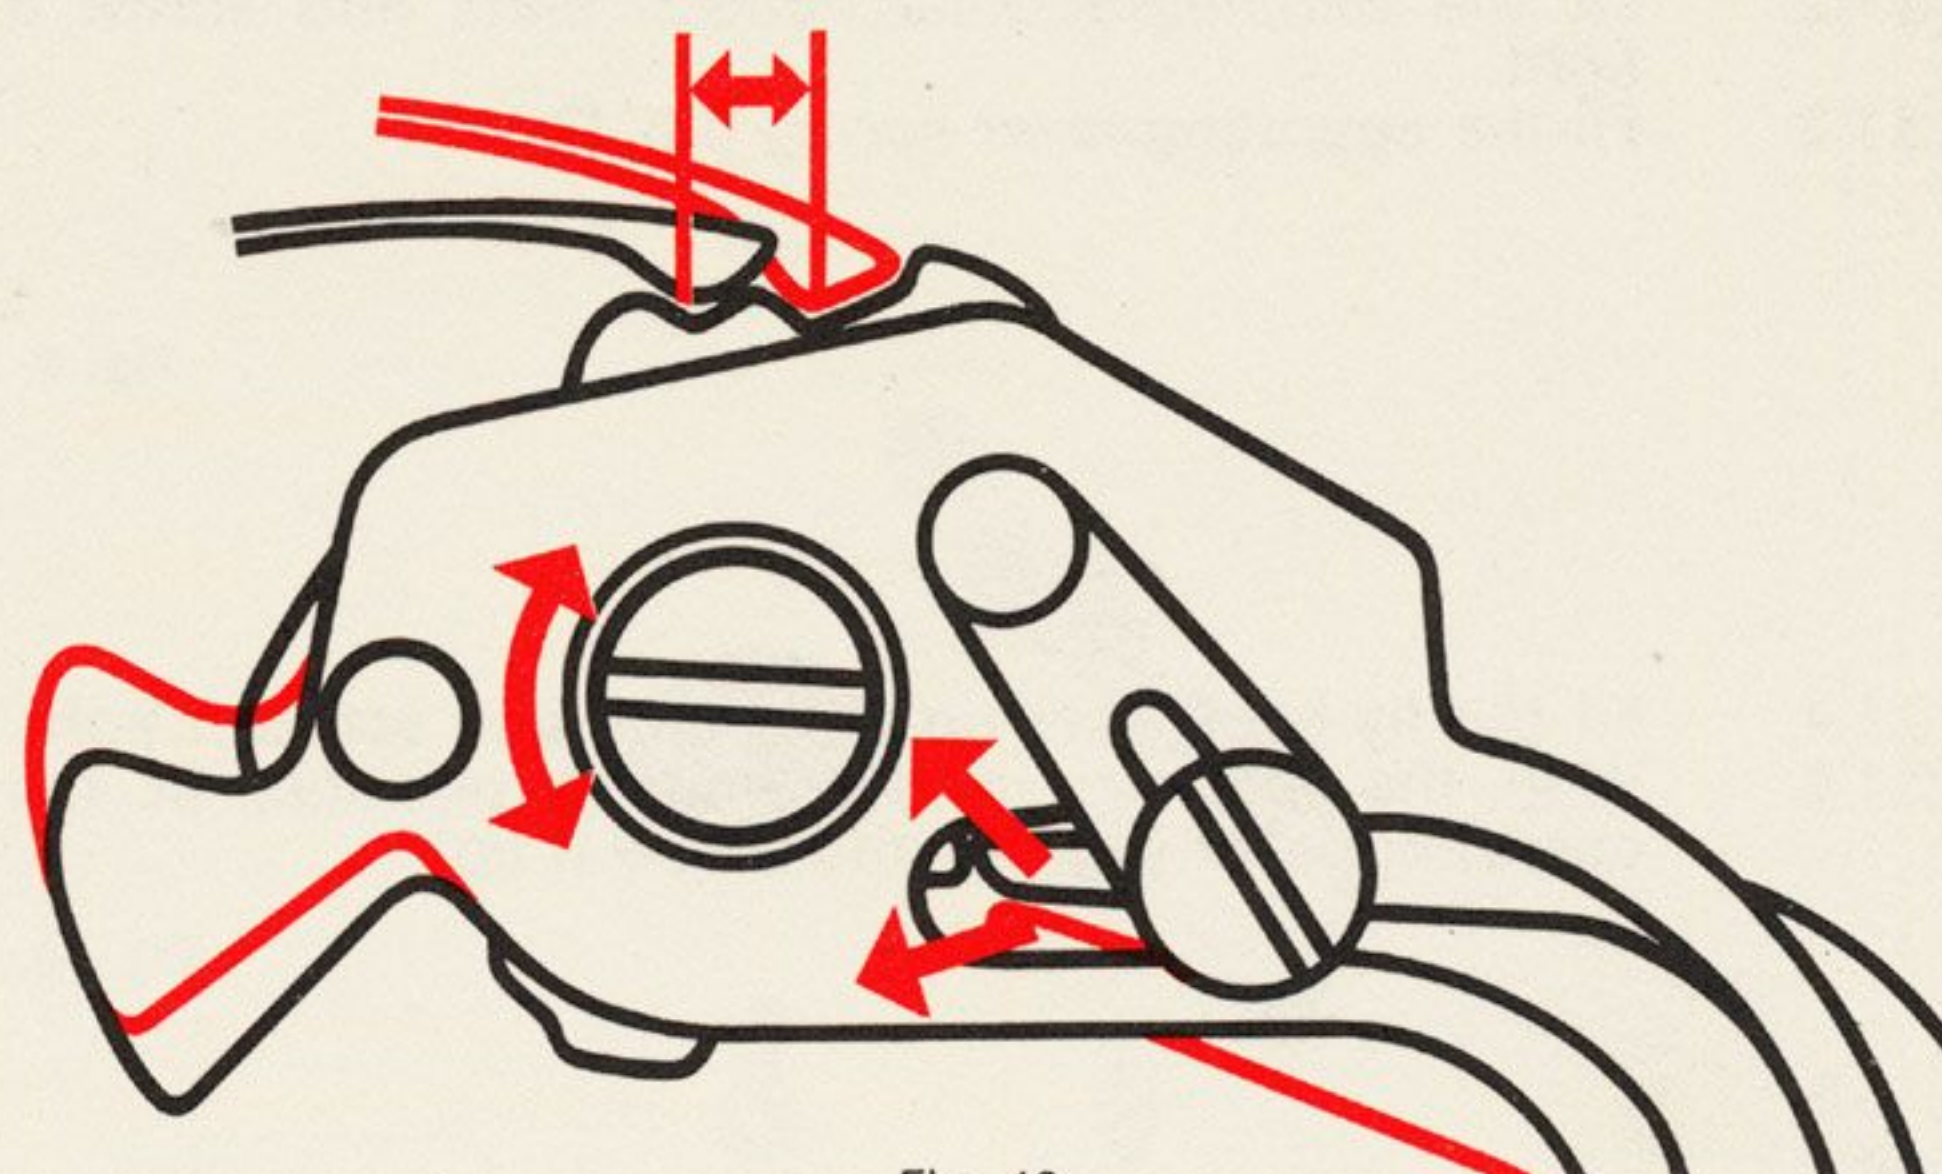

Fig. 13
3.1.10. Fit the hammer-cam jumper and screw it tight. Check: the working of the reverser (fig. 13) by moving the operating-lever;